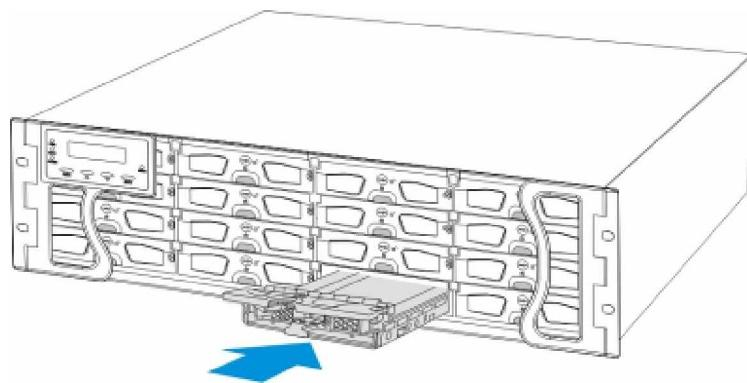

Figure 2-7: Installing a Drive Tray
- Step 3.** *Align the drive tray with the slot* in which you wish to insert it. Make sure that it is resting on the rails inside the enclosure, and then gently slide it in. This should be done smoothly and gently. (See **Figure 2-7**)